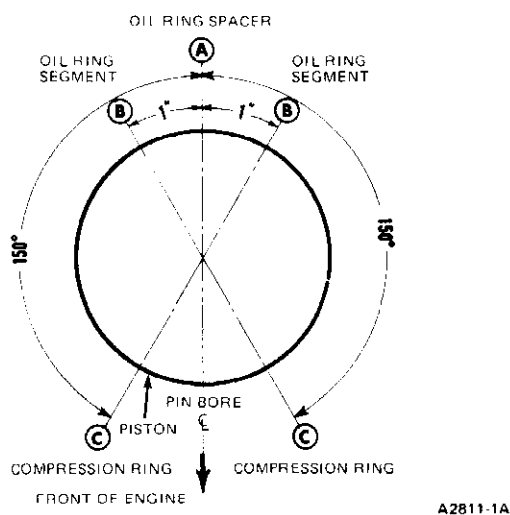

FIG. 37 Piston Ring Spacing
3. Make sure the ring gaps are properly spaced around the circumference of the piston (Fig. 37).